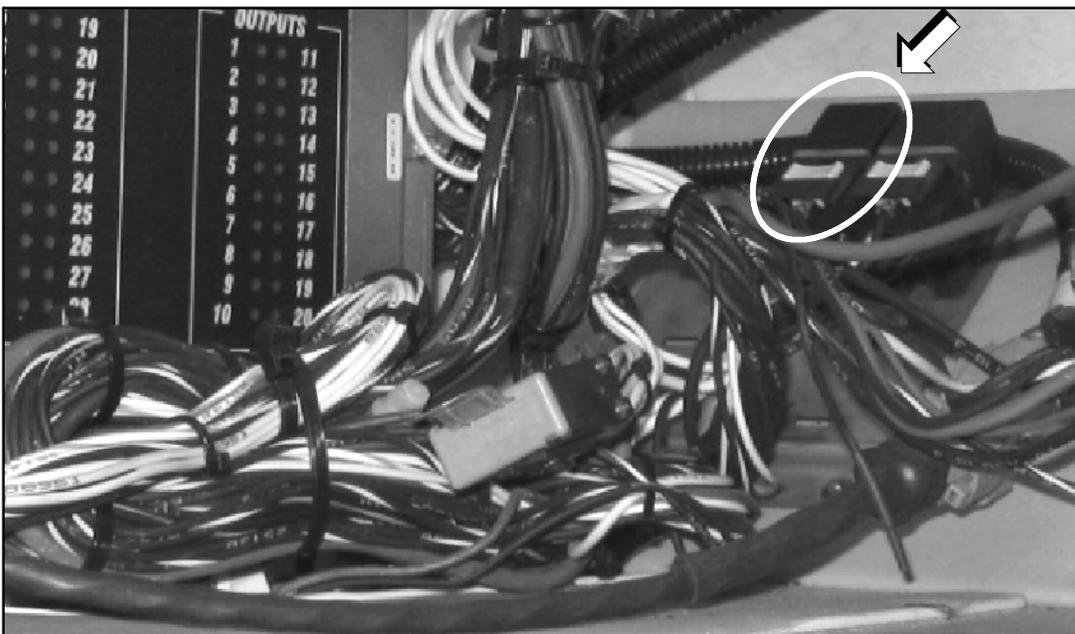

Figure 9. Relay K location in curbside, parcel rack compartment #1.
20. Locate Relay K (refer to Figure 9). Remove circuit 7029 from Relay K cavity 86 and splice with circuit 7029 from the Interior Light Relay Kit, p/n 07-08-4682B, using heatshrink, p/n 07-08-4684.